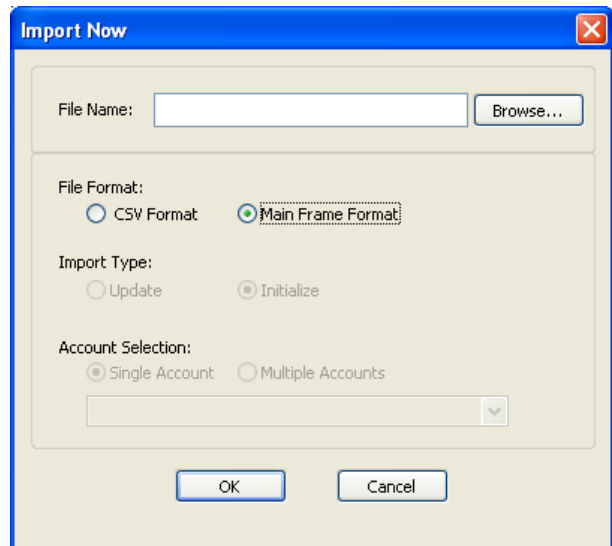

Figure 73
2. From the FILE pull down menu, select IMPORT and then choose IMPORT NOW or SCHEDULED IMPORT. The selected import window will appear (Fig 73).